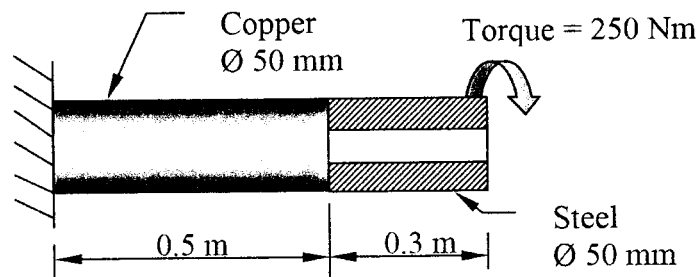

Figure Q4(a)
- (b) **Figure Q4(a)** displays copper rods with diameter of 50 mm and length of 0.5 m that are connected in series with a steel pipe of 50 mm outer diameter and 0.3 m of long. The steel pipe carries the torsion load of 250 Nm. If the angle of twist for steel pipes is twice the angle of twist of copper rod, calculate: